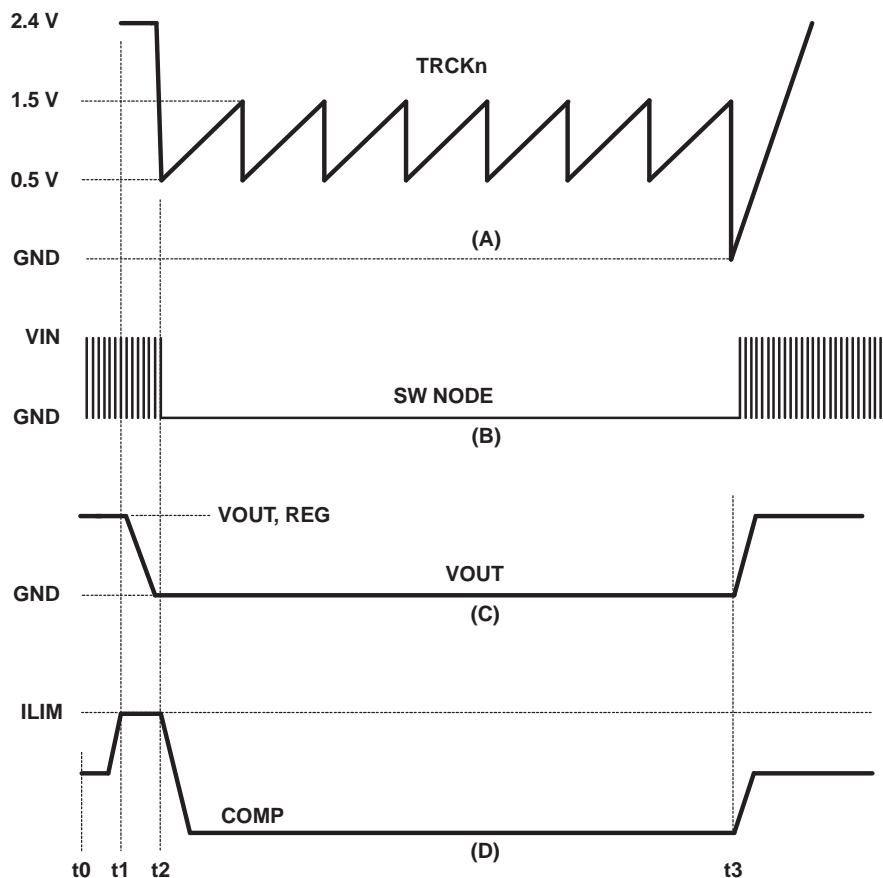

Figure 5-9. Hiccup Mode and Recovery
In order to reduce the input current and component dissipation during on overcurrent event, a hiccup mode is implemented. Hiccup mode refers to a sequence of 7 soft-start cycles where no MOSFET switching occurs and then a re-start is attempted. If the fault has cleared, the re-start results in returning to normal operation and regulation. This is shown in Figure 5-9.
In Figure 5-9, normal operation is occurring between t0 and t1 as shown by V_{OUT} being at the regulated voltage, (C) and normal switching on the SW NODE (B) and COMP at it's nominal level, (D). At t1, an overcurrent load is experienced. The increased current forces COMP to increase to the ILIM level as shown in (D). If the COMP voltage is above the ILIM voltage for 7 switching cycles, the controller enters a hiccup mode. During this time the controller is not switching and the switching MOSFETs are turned off. The TRCKn voltage goes through 7 cycles of charging and discharging the soft-start capacitor. At the end of the 7 cycles the controller attempts another normal re-start. If the fault has been cleared, the output voltage comes up to the regulation level as shown at time t3. If the fault has not cleared, the COMP voltage again rises above the ILIM voltage and the hiccup mode repeats.